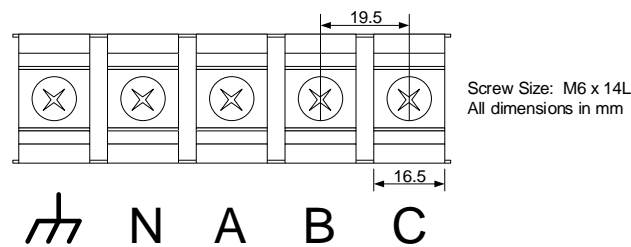

Figure 15 - AC Terminal Block Connections
- Connect the ground cable as well as the three utility phase cables to the AC terminal block as shown in Figure 15.
- The neutral connection (N) is provided for 4-wire grid-forming or standalone operation – this terminal should be left unconnected for grid-tie only applications. When used, **REG 41240 – AC Connection Type** must be set to '1' to indicate 4-wire operation.